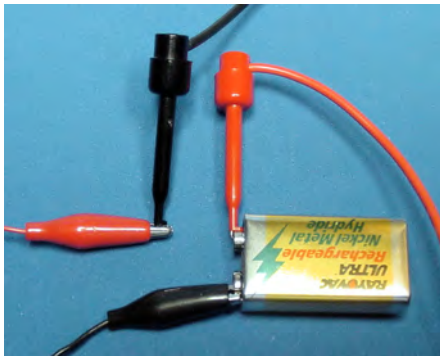

Figure 11-9. Power indicator circuit connection for current-flow measuring
- 7 Now, disconnect the red alligator clip from the positive terminal of the battery and connect it to the black test probe hook (see Figure 11-9).